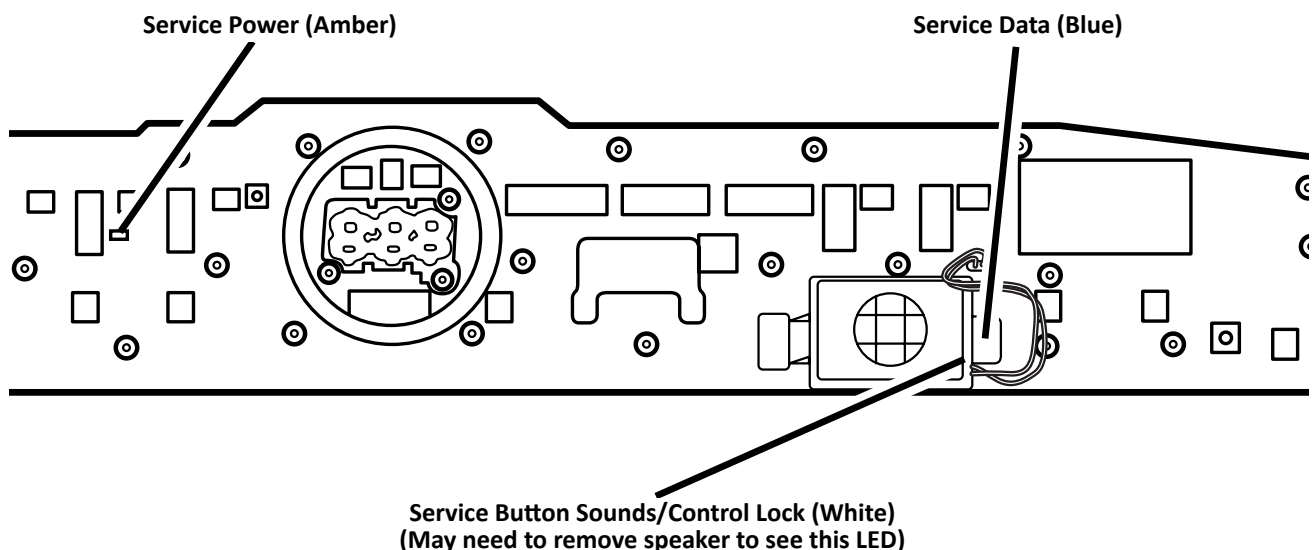

Figure 1 - Service LEDs on back of UI
6. Unplug the basket light connector **J19** from the main control (see Figure 1, page 3-5). Plug in washer or reconnect power.
5. Verify that the basket light connector **J19** is securely connected to the main control (see Figure 1, page 3-5).
BASKET LIGHT LOCATION-UNDER TOP (Figure 1)